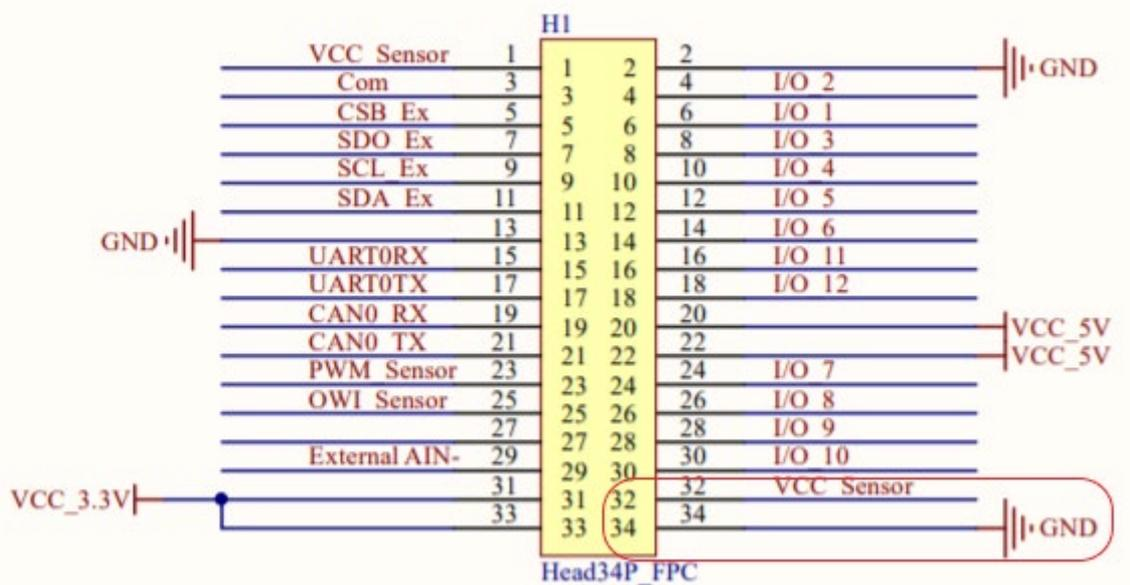

Figure 1.3 Header 1
3) Connecting VDD pin of NSM1030 with Header1 pin 32 of programming kit. Connecting GND pin of NSM1030 with Header1 pin 34 of programming kit. Please refer to the location of Header1 in Figure 1.3. The Power supply voltage is 10V.